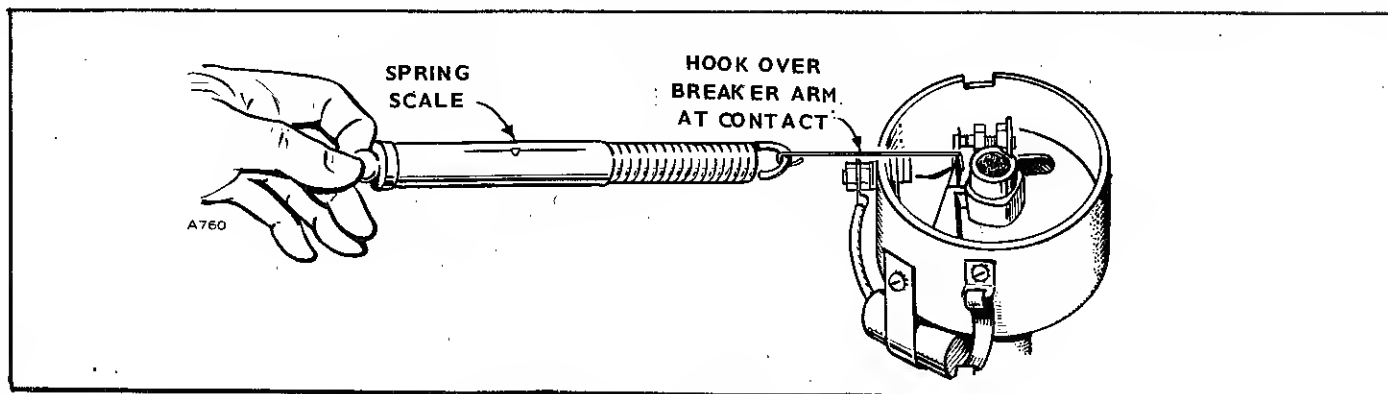

FIGURE 42. MEASURING POINT TENSION
Using a spring scale (Fig. 42), measure the tension of the points as they break contact. Tension should be 17 to 20 ounces. If it is greater, it causes excess wear; if less it
7. Check the tension of the breaker spring with a spring scale hooked on the arm at the contact and held at right angles to the contact surfaces (Fig. 42). Tension should be 17 to 20 oz. Adjust it by loosening the screw holding the end of the contact spring and installing spacing washers or sliding the end of the spring in or out.